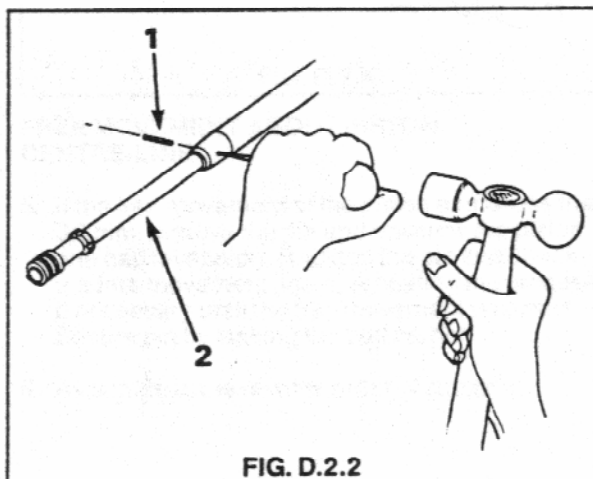

FIG. D.2.2
2. File off centre punch or chiselled indentations around pin hole and drive out retaining pin with the aid of a suitable punch and a hammer. See Fig. D.2.2.